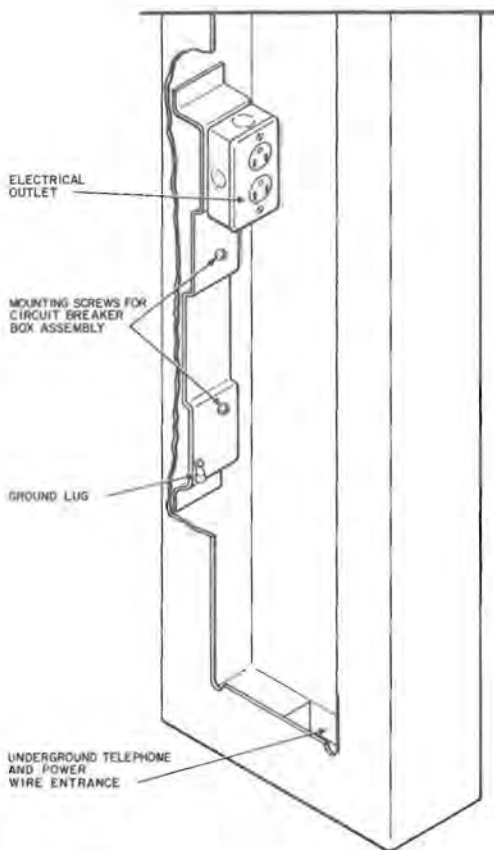
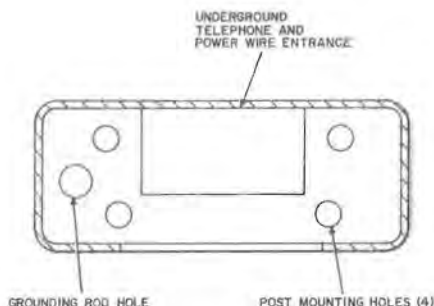
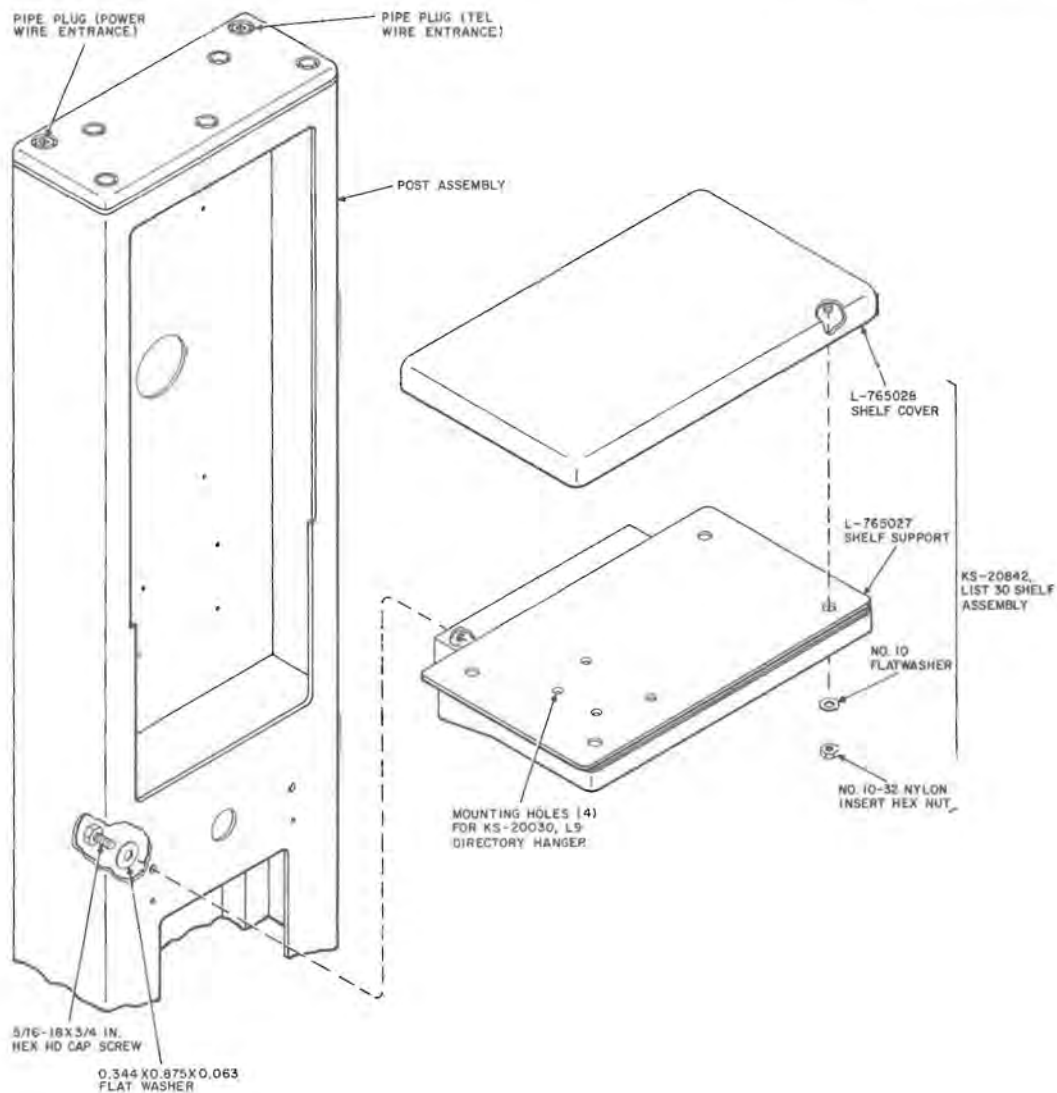
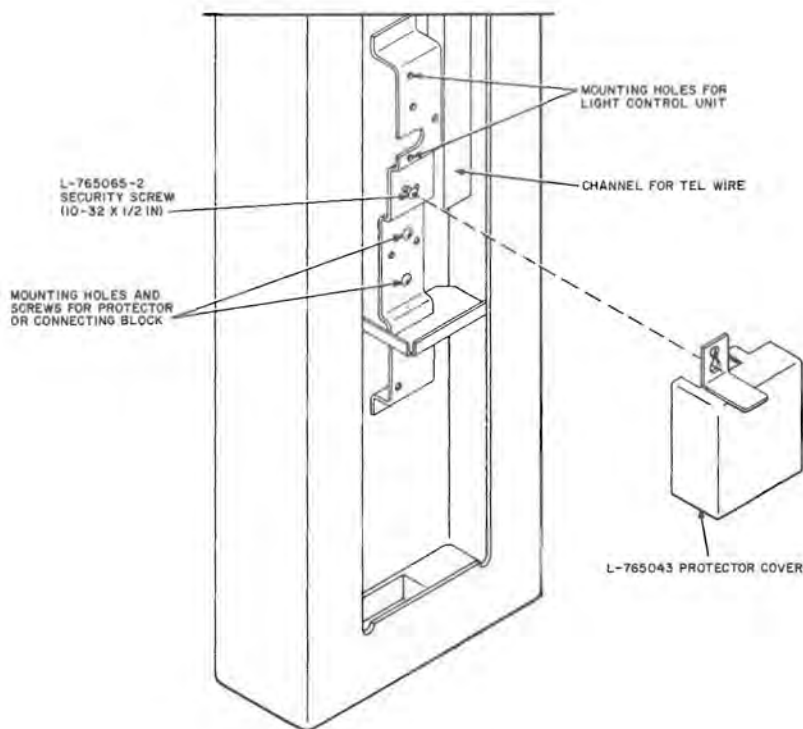

Fig. 4—Outlet for Terminating Electrical Service
Fig. 5—Layout of Holes in Bottom of Post
Fig. 6—Installation of List 30 Shelf on Post
Fig. 7—Location of Station Protection
2.16 Electrical service terminates in an electrical outlet located on the lower left inside of post (Fig. 4). The power wiring feeds up through a rectangular entrance hole when coming from below ground level (Fig. 5) or follows a channel down the left side of the post when entering from overhead (Fig. 6).
optional circuit breaker box when required (Fig. 4). The following items must be ordered separately:
2.18 A lug (Fig. 4) is provided below electrical outlet for connecting the ground wires.
from the base. Align the four mounting holes in bottom of post (Fig. 5) with holes in base (Fig. 9) and using the removed hardware, install the post assembly to the base.
- (1) If the front panel is installed on the post, remove the panel as outlined in 3.03(9).
- (2) Remove two 5/16-18 by 3/4 hex head cap screws and two 0.344 by 0.875 by 0.063 flatwashers from the rear of the shelf assembly.
- (3) Align the holes in the rear of the shelf with the mounting holes on the front of the post (Fig. 6). Using the screws and washers removed in (2), reach in through the opening under the shelf, and insert the screws through the post and into the rear of the shelf. Tighten the screws to secure the shelf.
- 3.07** Telephone wire entrance holes are located on the top-right side (Fig. 6) and lower-inside of post (Fig. 5).
Note: When the underground wire entrance is used, install flexible conduit between the studs in the mounting surface and the bottom of the protector access cover (Fig. 7).
Note 2: When the overhead entrance is used and the protector is located in the lower part of the post, the wire must feed down channel (Fig. 7) to the protector and back up to the wire exit hole in the recessed area. Remove the pipe plug (Fig. 6) on top of the post to gain access to the wire conduit.
3.11 If the entrance is made from the top, remove the top-left pipe plug (Fig. 6), feed the wiring down the channel in the left side, and terminate at the electrical outlet located inside, lower-left of the post on a mounting bracket (Fig. 4).